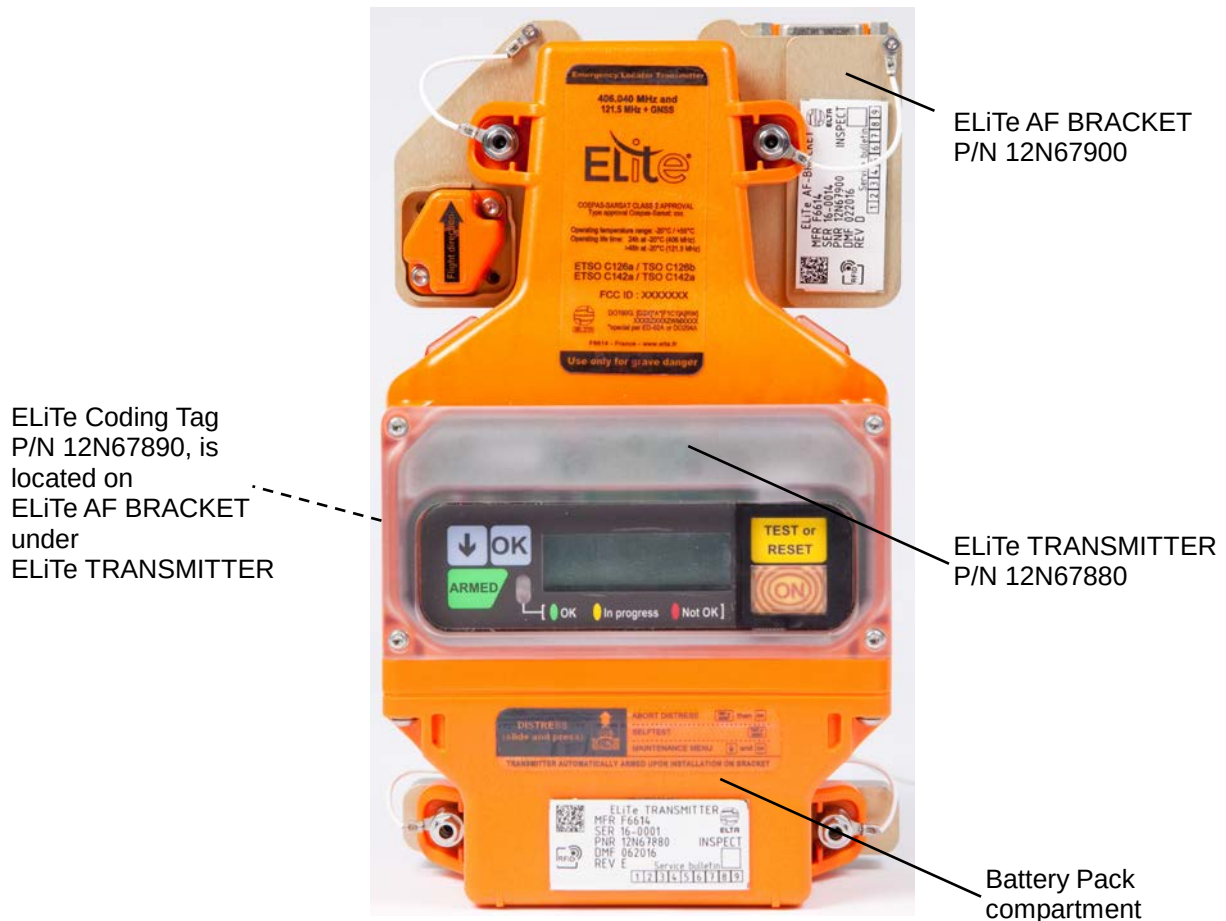

Figure 2
A. Purpose of the ELiTe ELT (Ref. Fig. 2)